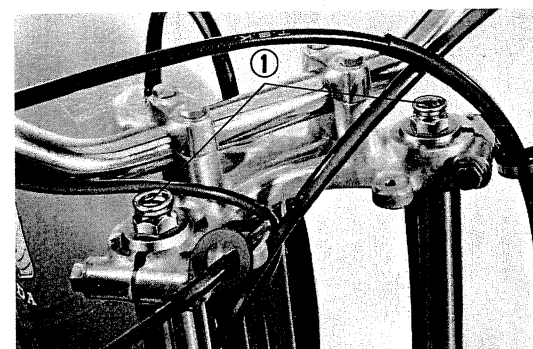

Fig. 20 ① Suspension spring adjuster
- 2) Remove the suspension spring adjuster from top of the fork. Loosen off the drain plugs from each fork leg and pump the fork several times to encourage oil to drain thoroughly. (Fig. 20)